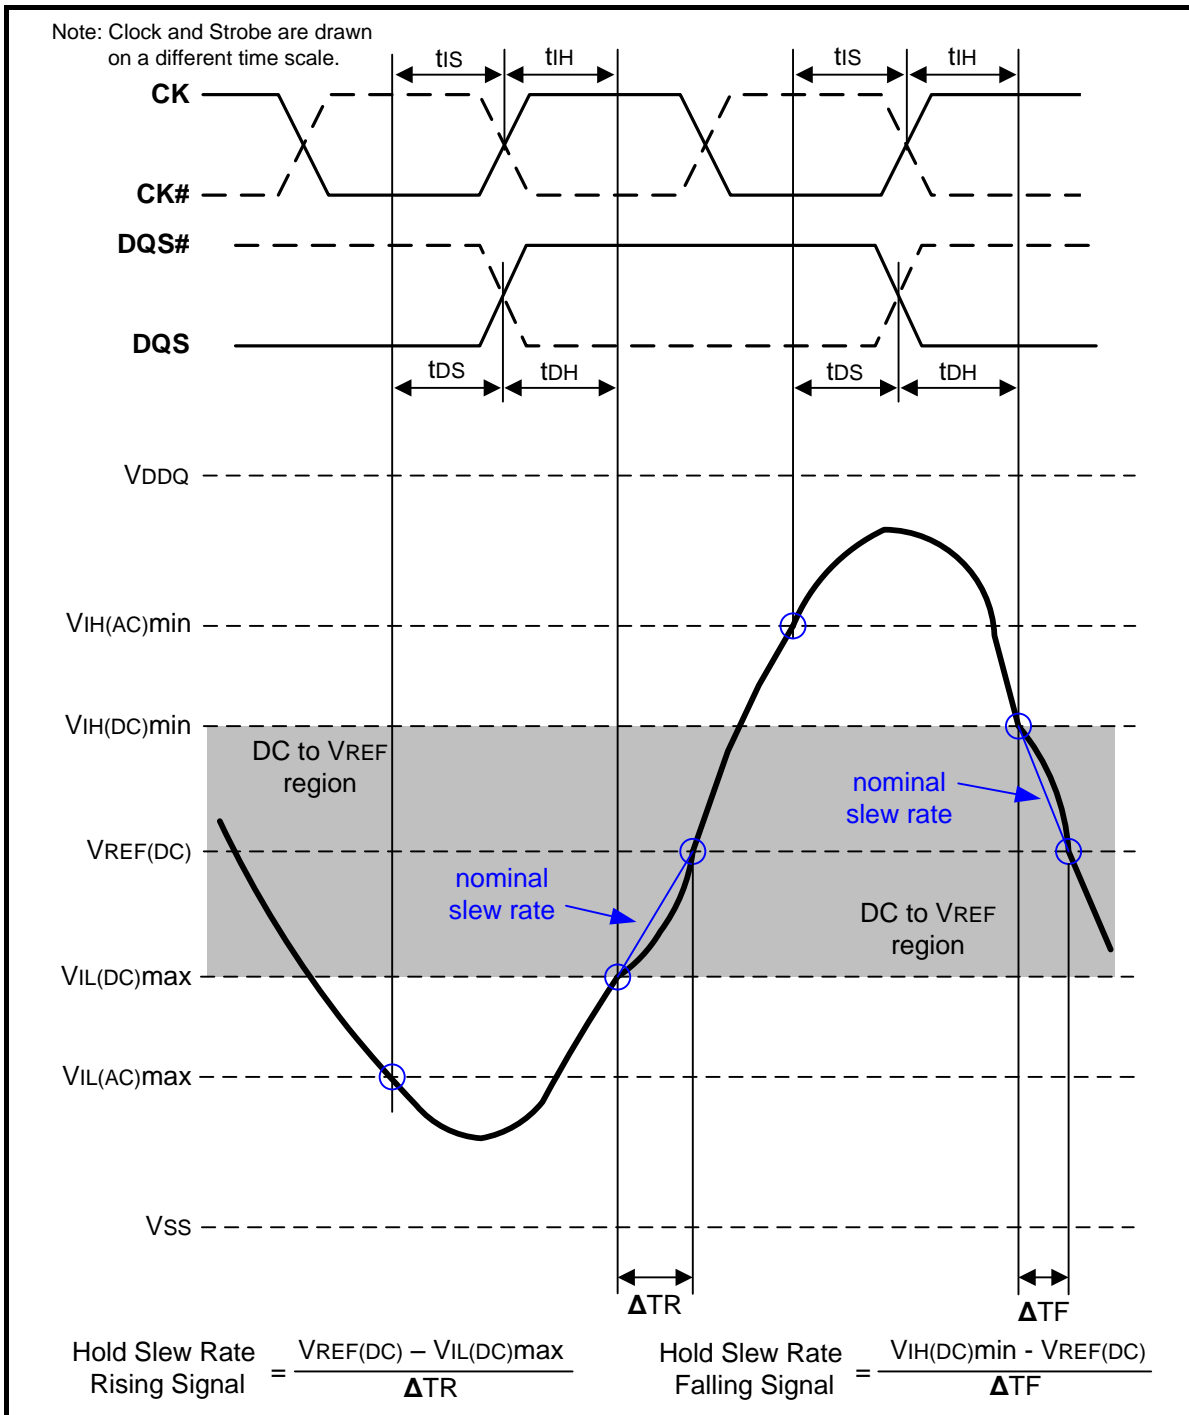
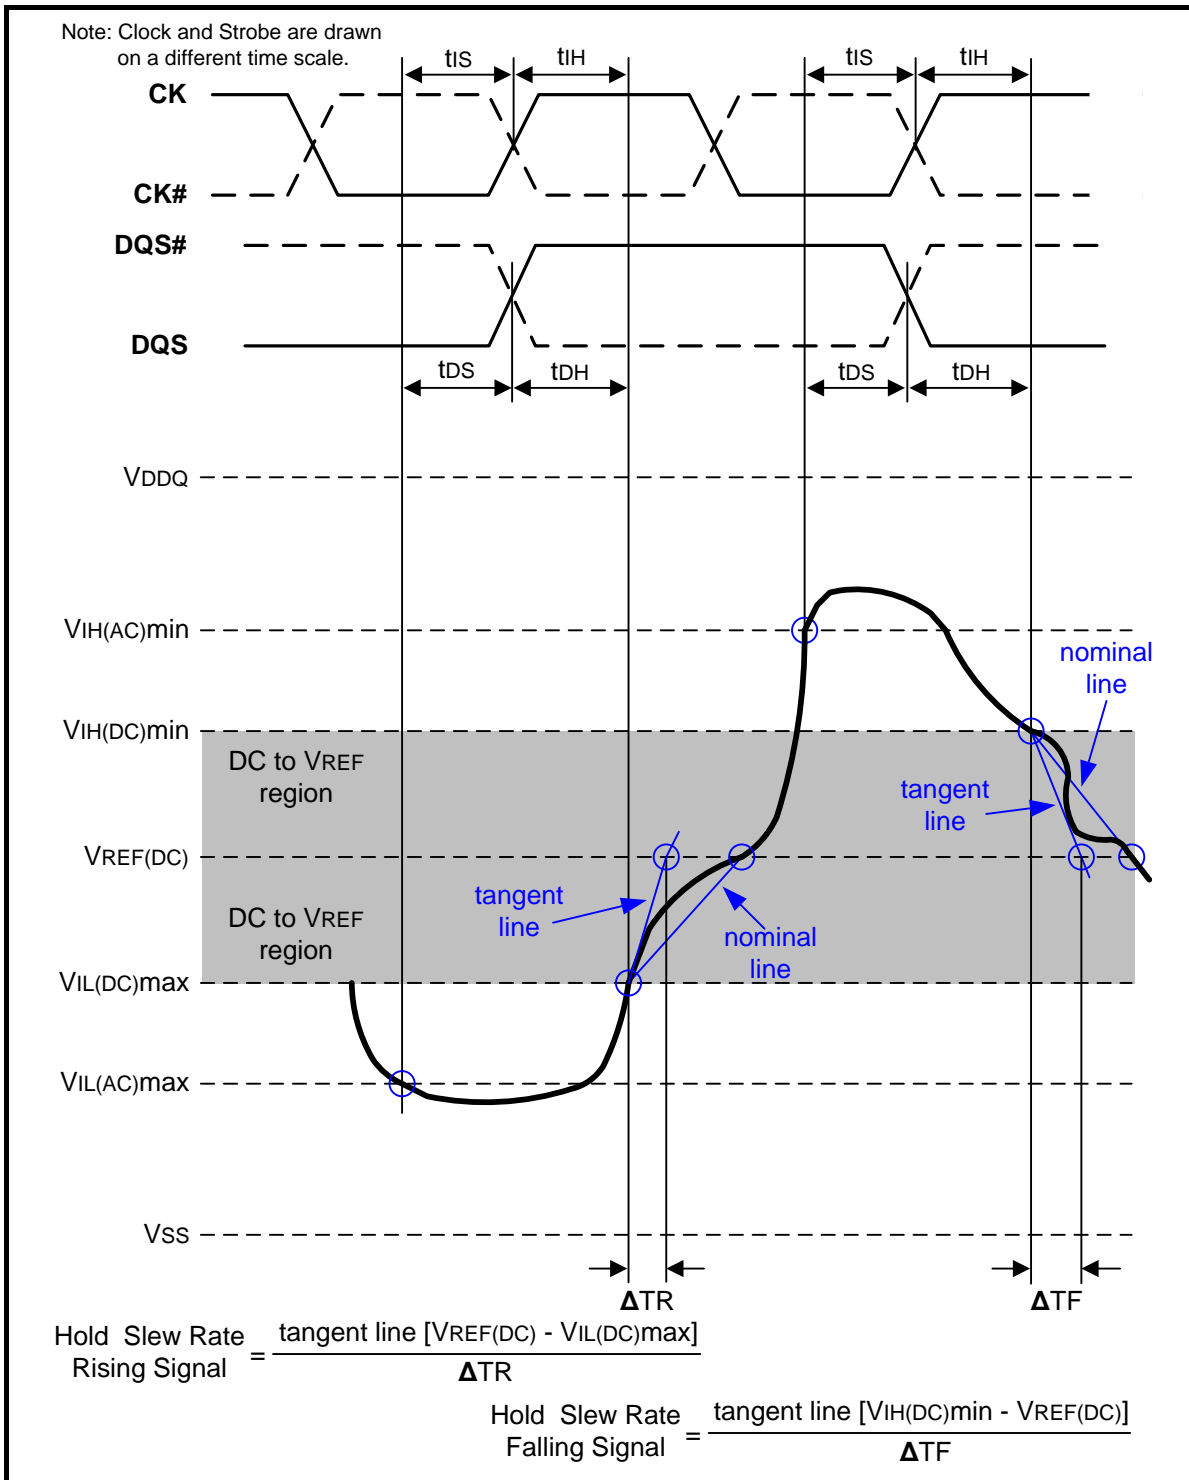

Figure 108 – Illustration of nominal slew rate for hold time tDH (for DQ with respect to strobe) and tIH (for ADD/CMD with respect to clock)
Figure 110 – Illustration of tangent line for for hold time t_{DH} (for DQ with respect to strobe) and t_{IH} (for ADD/CMD with respect to clock)
Hold (t_{IH}) nominal slew rate for a rising signal is defined as the slew rate between the last crossing of $V_{IL(DC)max}$ and the first crossing of $V_{REF(DC)}$. Hold (t_{IH}) nominal slew rate for a falling signal is defined as the slew rate between the last crossing of $V_{IH(DC)min}$ and the first crossing of $V_{REF(DC)}$. If the actual signal is always later than the nominal slew rate line between shaded 'DC to VREF(DC) region', use nominal slew rate for derating value (see Figure 108). If the actual signal is earlier than the nominal slew rate line anywhere between shaded 'DC to VREF(DC) region', the slew rate of a tangent line to the actual signal from the DC level to $V_{REF(DC)}$ level is used for derating value (see Figure 110).
Hold (tDH) nominal slew rate for a rising signal is defined as the slew rate between the last crossing of VIL(DC)max and the first crossing of VREF(DC). Hold (tDH) nominal slew rate for a falling signal is defined as the slew rate between the last crossing of VIH(DC)min and the first crossing of VREF(DC) (see Figure 108). If the actual signal is always later than the nominal slew rate line between shaded 'DC level to VREF(DC) region', use nominal slew rate for derating value. If the actual signal is earlier than the nominal slew rate line anywhere between shaded 'DC to VREF(DC) region', the slew rate of a tangent line to the actual signal from the DC level to VREF(DC) level is used for derating value (see Figure 110).